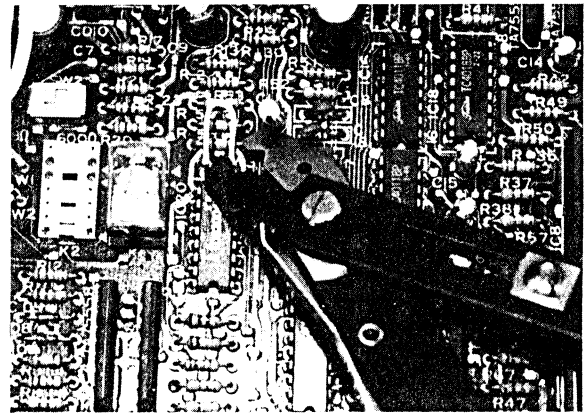

FIGURE 4
- Background Music Relay Service—the optional BR relay (K1 socket, Figure 4), if installed, provides a dry contact at the BR terminals on the front of the MTOU to control cut-off of BGM during an external page. The relay operates whenever an external page occurs.
- Night Relay Service—the optional NR relay (K2 socket), if installed, provides a dry contact at the NR terminals on the front of the MTOU. The W3 strap option (Figure 4) allows the relay to function in one of two modes.